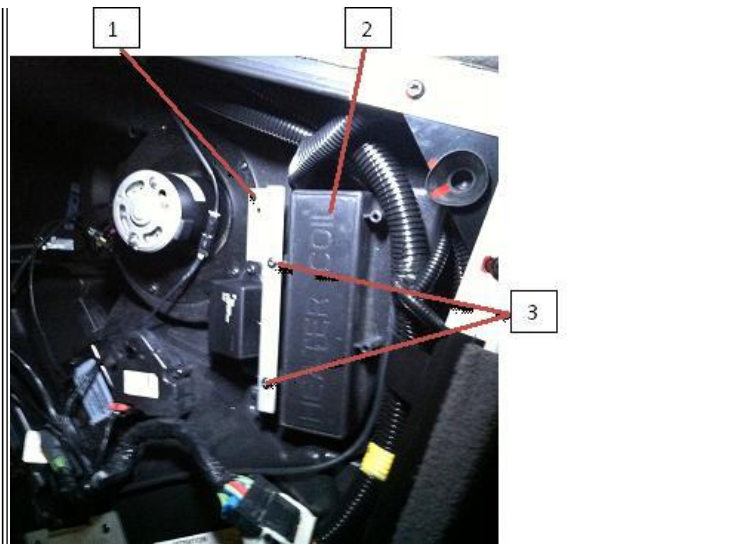

Figure 11: Relay Assembly.
33. Install new relay assembly (Figure 11, Item 1) behind area marked HEATER COIL (Figure 11, Item 2) with two new screws (Figure 11, Item 3).
34. Using torque wrench, tighten two screws (Figure 11, Item 3) to 20 lb-in (2 N·m).